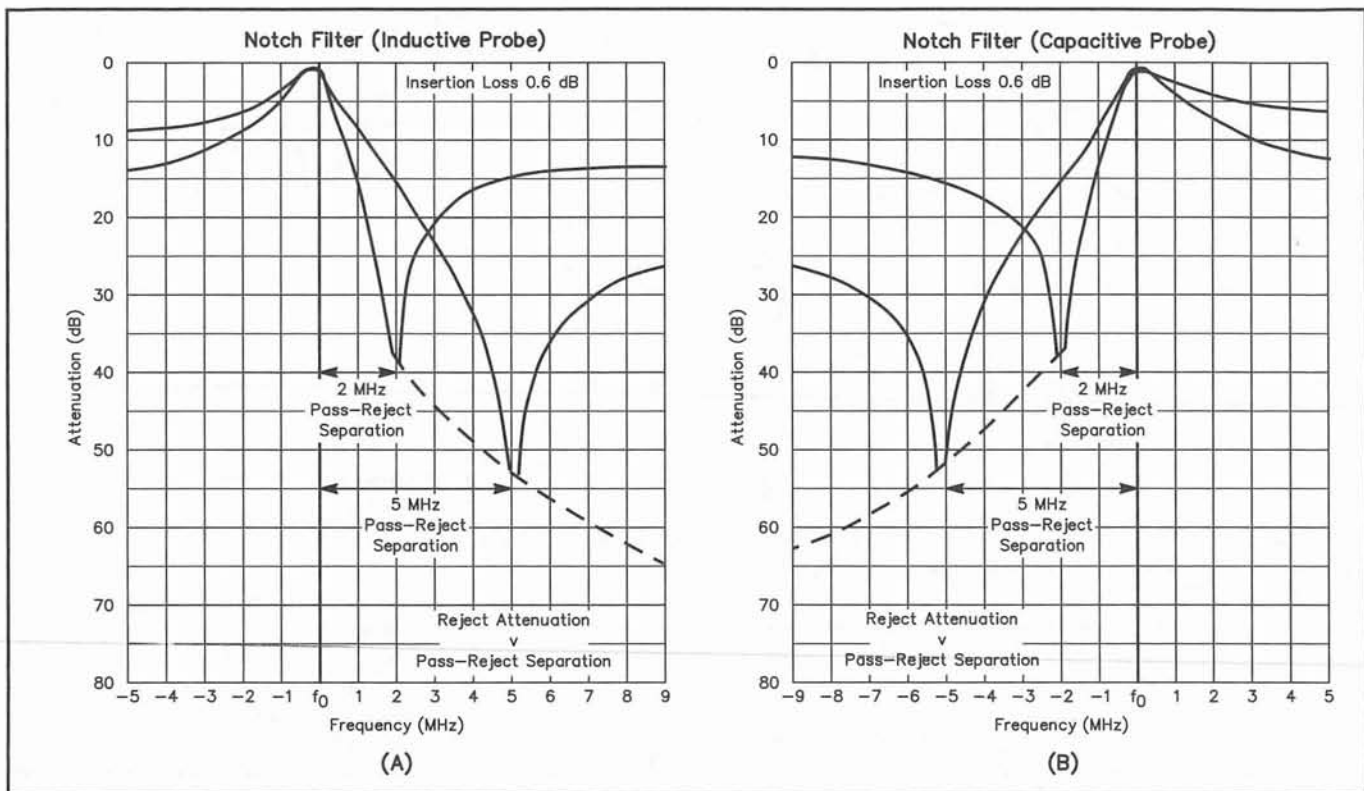

Figure 14.11—Pass-reject cavity-filter frequency response. 450-MHz cavities shown.
*Pass/reject filters* use a combination of the characteristics of band-pass and band-stop filters to make a filter that fills a special need. This filter has a deeper notch per cavity than a notch filter, and its notch can be closer to the passband. The passband characteristics are worse than those of a standard band-pass cavity, especially far (many MHz) from the center frequency. Pass/reject filters are usually two-port devices and have reactive sections added to the coupling probes. An inductive probe raises the notch above the passband, while a capacitive probe lowers the notch below the passband. Figure 14.11 shows filters with both inductive and capacitive probes.